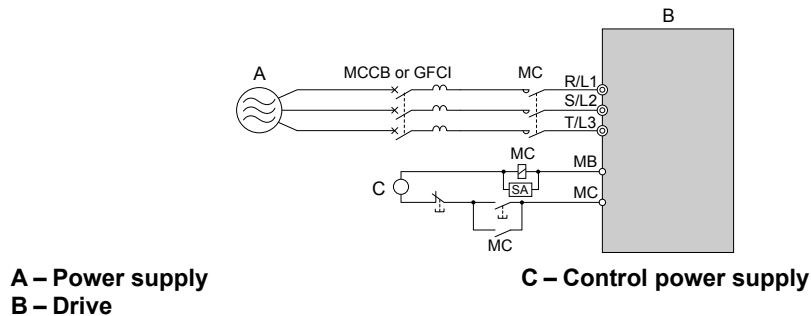

Figure 8.18 Power Supply Interrupt Wiring (Example)
- If several drives are connected to one MCCB or GFCI that is shared with other equipment, use a sequence that shuts the power OFF when errors are output by using magnetic contactor (MC) as shown in Figure 8.18.